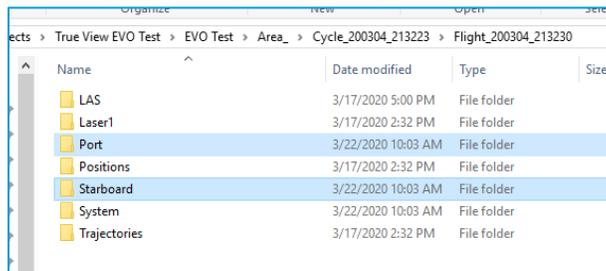

Figure 99 – Example Location of Tagged Images
- a) Tagged images, suitable for **Metashape**, are in the project folder, in the Port and Starboard folders (Figure 99) (Project\Area_\Cycle_YYMMDD_HHMMSS\Flight_YYMMDD_HHMMSS\)